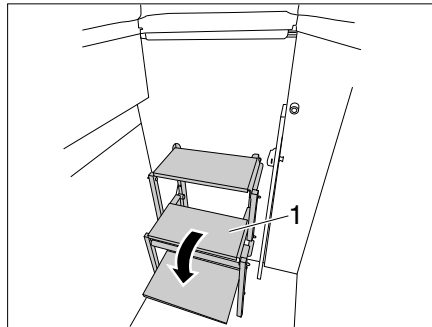

Fig. 62 Extending the step ladder
- Fold out the step ladder (Fig. 62,1).
- Fold in the step ladder (Fig. 62,1).